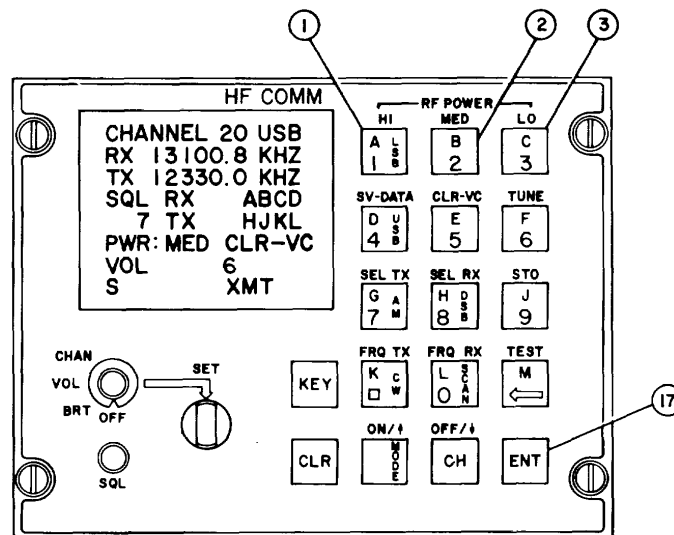

Figure 2-22. C-11245/U Power Level Select, Controls
c. **Power Level Select.** Refer to figure 2-22. To select power level, press pushbutton for HI (1), MED (2), or LO (3), then press ENT pushbutton (17). The power display field in field 13 (figure 2-2), appears in inverse video when a power level pushbutton is pressed, and remains in inverse video until ENT pushbutton is pressed. There is a switch on the front of the amplifier-coupler for high power lockout which can inhibit the high output power mode. Refer to paragraph 2-3. When high power lockout is in effect, and HI (1) is selected, the transmitter is limited to medium power.